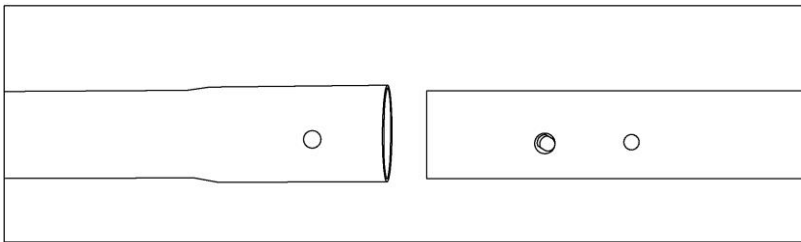

Fig. 9
- Take the hose end attachment wand and connect to the lower attachment wand (utensil end). (Fig.9)